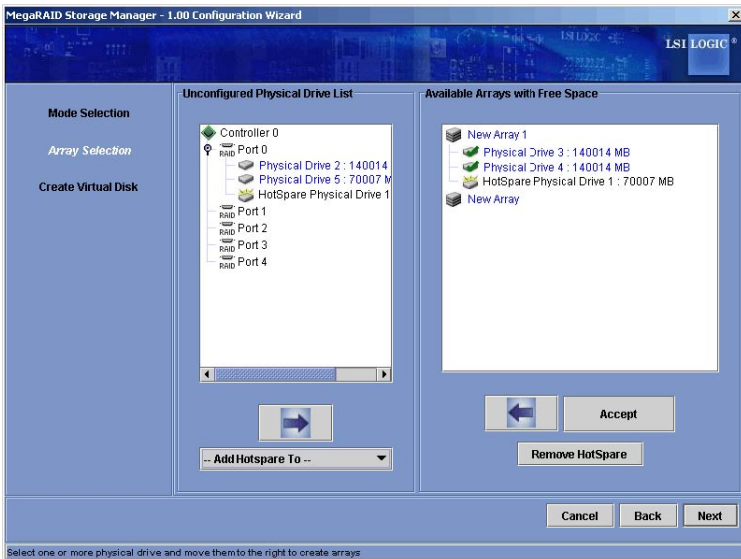

Figure 6-7: Manual Configuration - Adding a Hotspare
3. To add a hotspare to an array, select an available drive in the left panel. Select the array from the drop-down menu, and click Add Hotspare To, as shown in Figure 6-7.
4. To add a hotspare, select an available drive in the left panel. Select the array from the drop-down menu, and click Add Hotspare To, as shown in Figure 6-7.